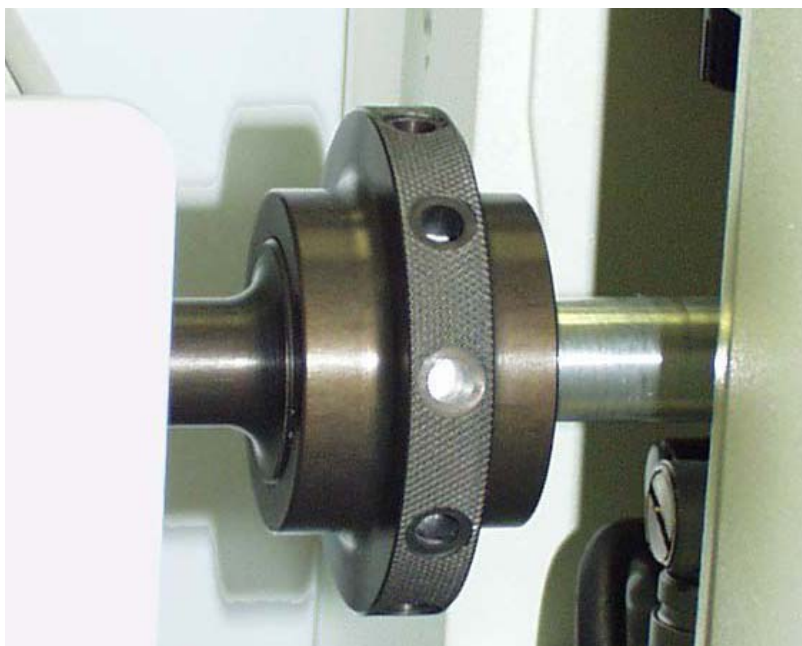

Figure 49 - Compression Nut Connecting AutoProbe to MS
4. Loosen the Compression Nut on the Inlet Assembly and the AutoProbe MS-Probe Interface Tube (Figure 49).